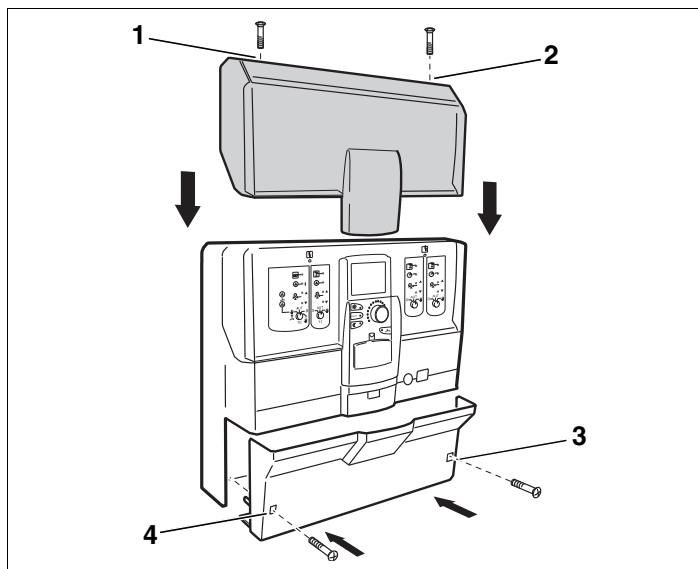

Fig 10 Fitting casing cover and cable cover
- Replace both screws on the upper housing cover (→ Fig. 10, [1] and [2]).
- Replace both cable cover screws (→ Fig. 10, [3] and [4]).